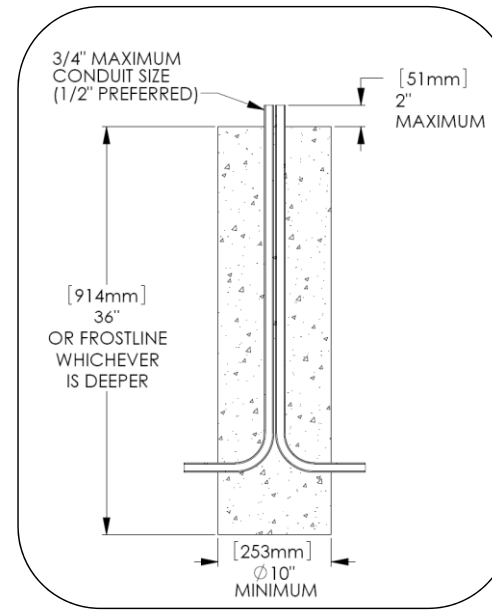
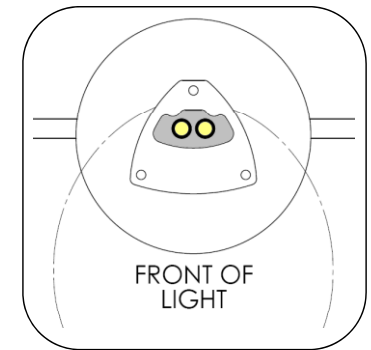
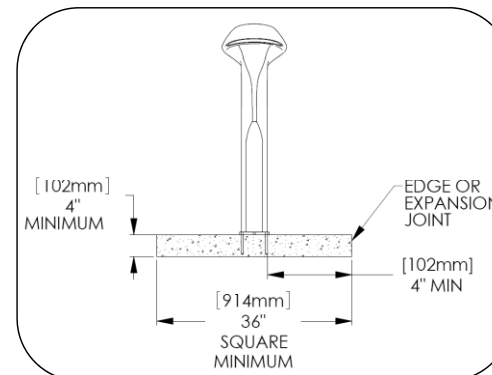

Fig. 1 – Minimum footing recommendation
Fig. 3 – Proper orientation of conduit
Fig. 2 – Minimum concrete slab size
1. Prepare footing as required by local codes, see Fig. 1, Fig. 2 and Fig. 3 for recommendations.